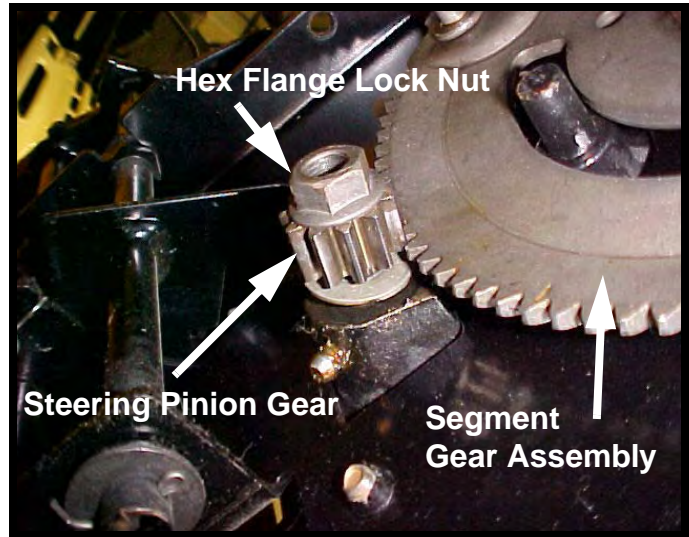

FIGURE 4
14. Install the flange Lock Nut that was removed in step 6, to the Steering Shaft. See Figure 4. Torque the Flange Lock Nut to 450 to 600 in lbs. (37.5 to 50 ft. lbs.).